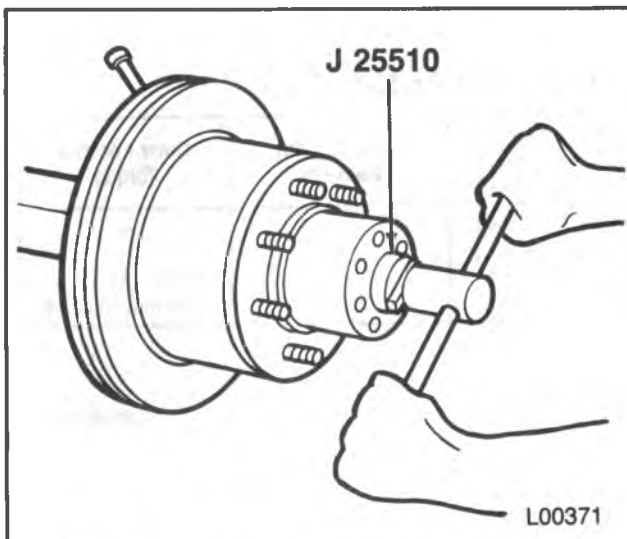

Figure 36 — Removing Wheel Bearing Nut
1. Axle shaft (74). Refer to "Axle Shaft Replacement" in this section.
2. Nut (90) using J 25510 (figure 36).
3. Lock washer (89).
1. Lock washer (89).
- Bend a tang over a flat of the adjusting nut (88).